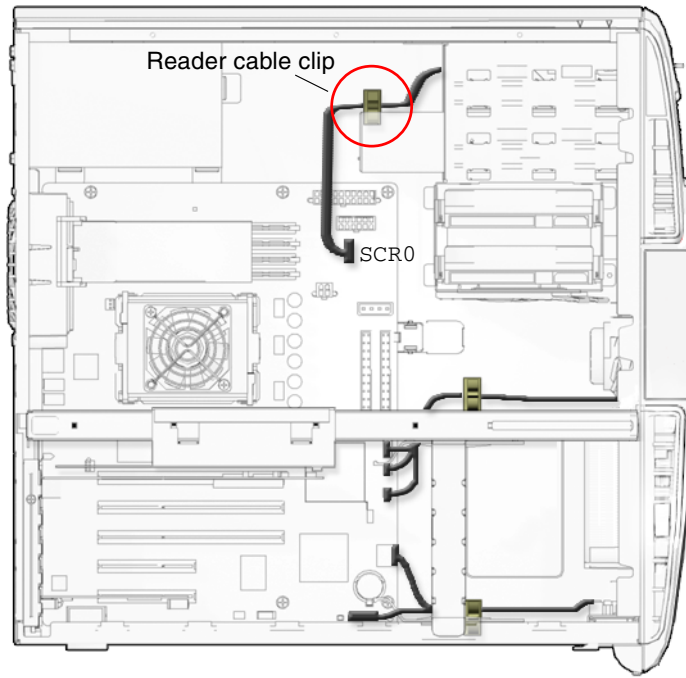

FIGURE 12-14 Removing the Smart Card Reader Interface Cable From the Reader Cable Clip
3. **Open the reader cable clip at the top of the chassis and remove the smart card reader interface cable from the clip.** See FIGURE 12-14.